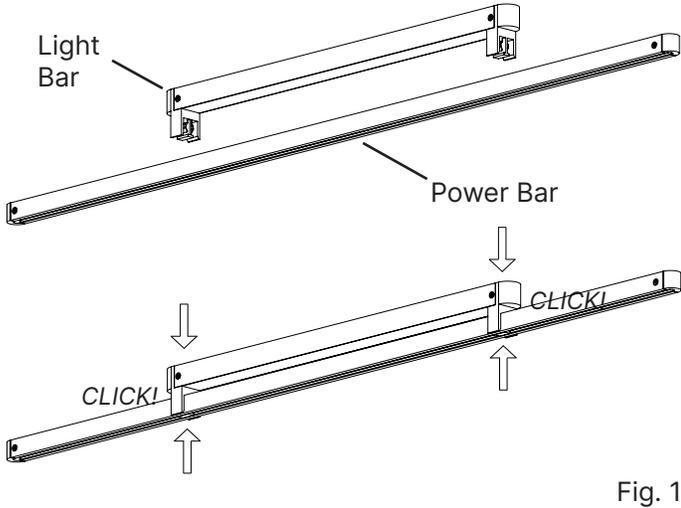

Fig. 1
2. Press down firmly on the top of both ends of the **Light Bar**, while pressing up on the bottom of the **Power Bar**, until the Light Bar clicks into place (Fig. 1).